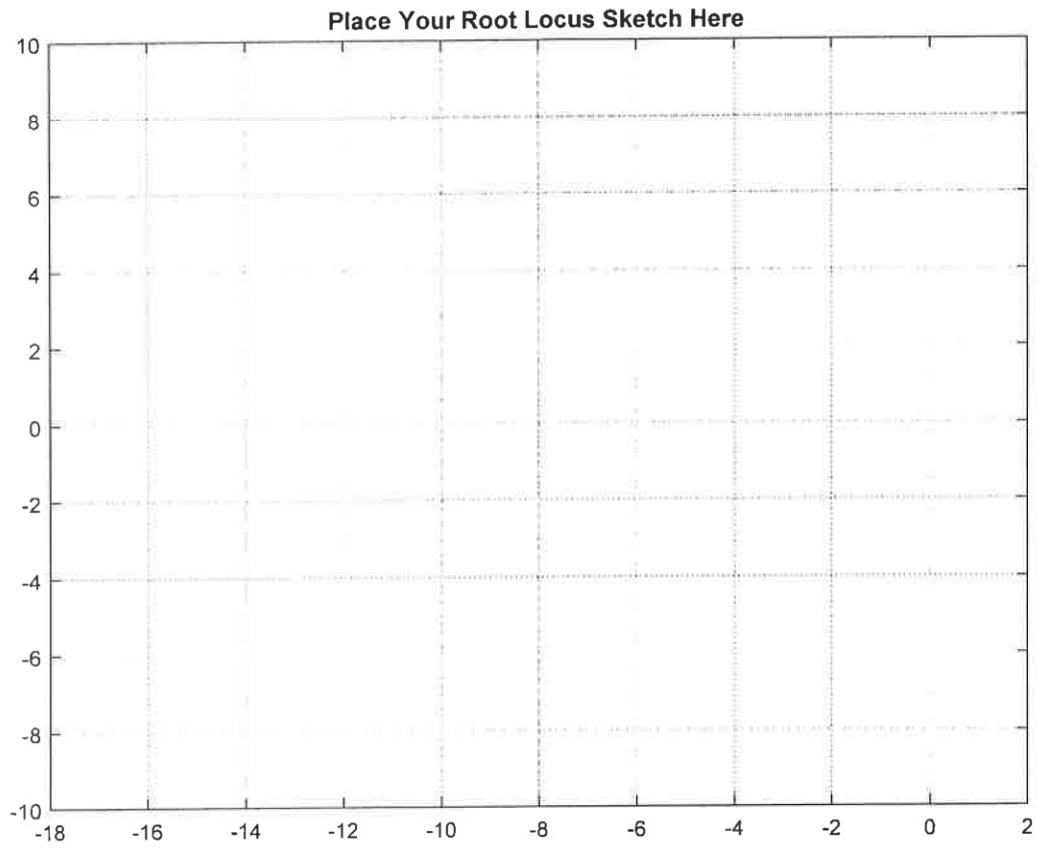

Figure Q6.2 – Root Locus of the System in Question 6
- 1) **(10 marks)** Sketch the Root Locus for the system, in the space provided in Figure Q6.2. Calculate all relevant coordinates, such as: asymptotic angles, break-in/away points, the location of the centroid as well as the coordinates of the crossover with the Imaginary axis, i.e. ω_{osc} and the corresponding value of the critical gain, K_{crit} , at which the system becomes marginally stable, if applicable.